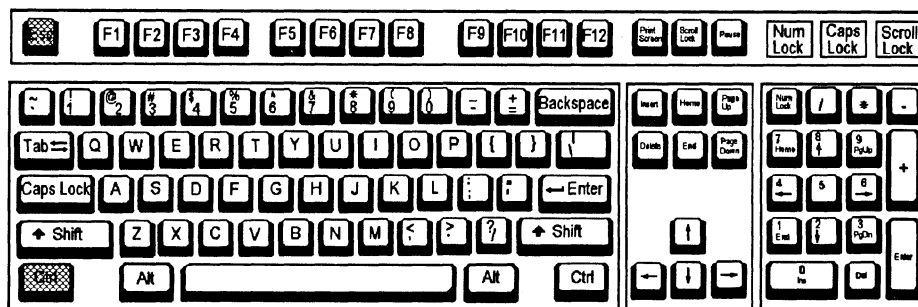

Figure 1-17.—Special function keys.
SPECIAL FUNCTION KEYS.— If you look at figure 1-17, you will notice once again several keys are outlined in bold. These are special function keys you can expect to use. Located on the far left side of the keyboard, you see 12 special function keys labeled F1 through F12. On some keyboards you will find these function keys have been placed across the top of the keyboard, above the letters and numbers. The number of these function keys may also vary. To the right of the keyboard is another group of special function keys.
- **CURSOR CONTROL KEYS** The CURSOR CONTROL keys are most important. They allow you to move the cursor from one place to another on the display screen. Remember, the cursor is the indicator, the spot of light on the screen, which lets the user know where the next entry will be made. On the keyboard shown in figure 1-17, the cursor control keys are located in two locations, both on the numeric keypad and as a separate keypad. When the NUM LOCK key is **OFF**, you can use the arrows on keys 2,4,6, and 8 to control cursor movement one line up or down, or one position to the left or right, as shown by the direction of the arrow. The remaining cursor control keys on keys 1, 3, 7, and 9 are used to move the cursor to other parts of the screen or document/data (for example, the end of a line [END key] or the top of the next page [PgDn key]). Some software packages use the cursor control keys in combination with each other or with other keys to increase the number of ways and the speed with which you can move the cursor. Read the software documentation; the faster and more efficiently you are able to move the cursor through a document or database, the faster and more efficiently you will get the job done. Some keyboards have separate arrow keys